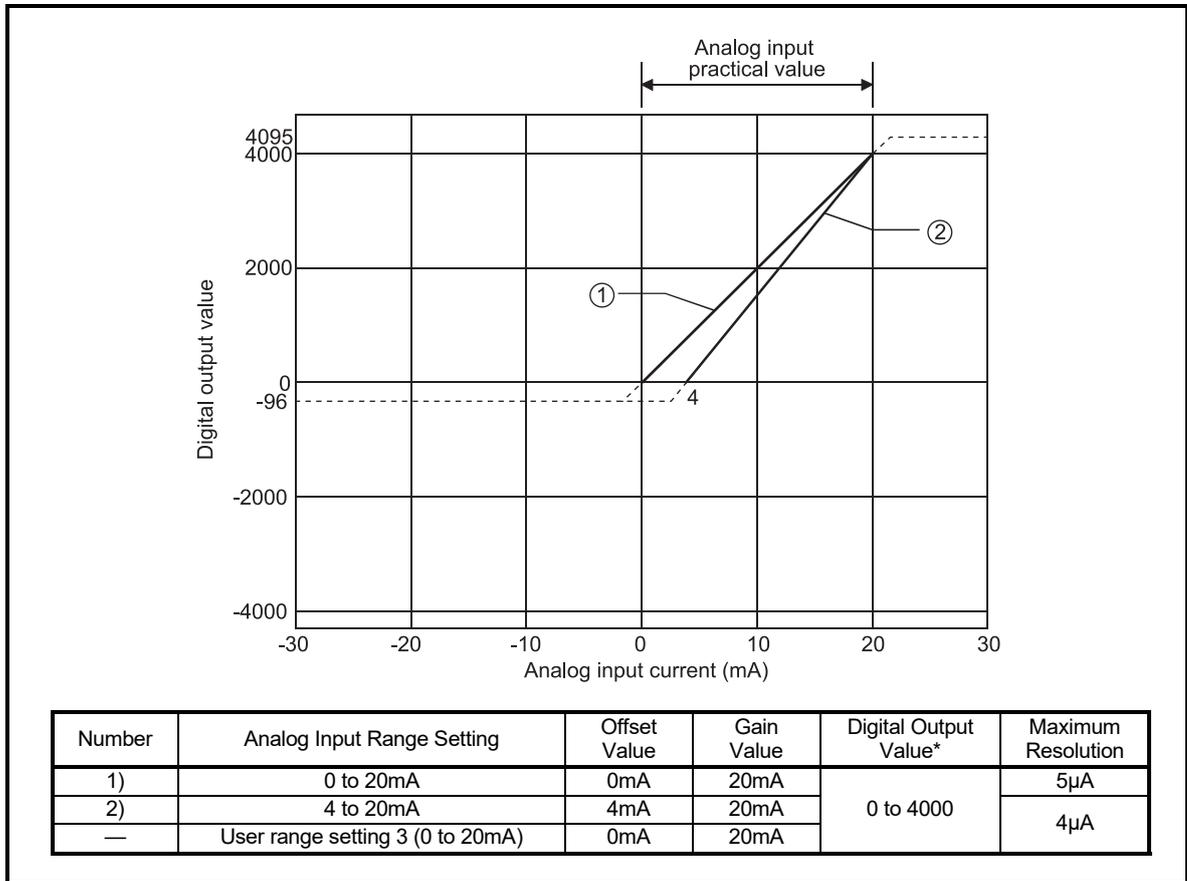

Fig. 3.2 Current Input Characteristic
(1) Do not input more than ±30mA. A breakdown may result due to heat increase.
(2) If the analog input provided corresponds to the digital output value* beyond its range, the digital output value is fixed to the maximum or minimum. <ul style="list-style-type: none"> <li>• For 0 to 4000, the digital output value is within the range -96 to 4095.</li> </ul>
(3) Within the analog input and digital output scopes of each input range, the maximum resolution and accuracy are within the performance specification range. Outside those scopes, however, they may not fall within the performance specification range. (Avoid using the dotted line part in Fig. 3.2.)
(4) Set the offset and gain values of the user range setting within the range satisfying the following conditions. <ul style="list-style-type: none"> <li>(a) Setting range when user range setting 3 is selected: 0 to 20mA</li> <li>(b) (Gain value) &gt; (Offset value)</li> </ul> If you attempt to make setting outside the setting range of (a), the "RUN" LED flickers at 0.5s intervals. Set the values within the setting range. If you attempt to make setting outside the setting range of (b), the "RUN" LED flickers at 0.5s intervals. Make setting again.